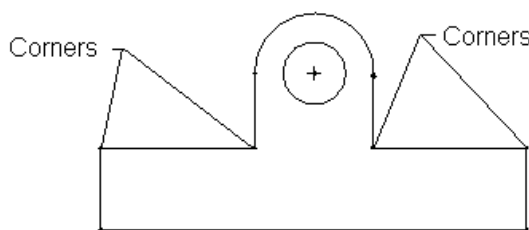

Figure 3-38 Corners to be filleted
- c. Apply fillets at two corners of the sketch, refer to Figures 3-38 and 3-39.
1. Choose the **Circular Trim** option from the **Fillet** drop-down in the **Sketching** group; you are prompted to select the two entities to be filleted. The corners that you need to fillet are shown in Figure 3-38.